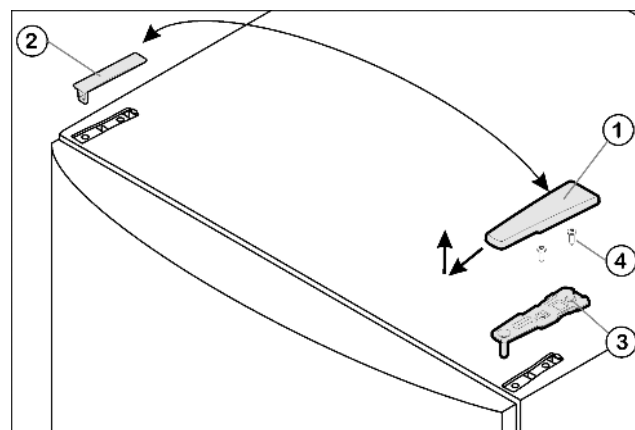

Fig. 4
- Pull off the cover Fig. 4 (1) forwards and upwards.
- Lift off the cover Fig. 4 (2).
- Unscrew the upper turn hinge Fig. 4 (3) (2x Torx® 25) Fig. 4 (4) and lift it off.
- ▶ Insert the upper turn hinge *Fig. 4 (3)* in the door on the new hinge side.
- ▶ Screw the upper turn hinge **firmly** into place (**with 4 Nm**) (2x Torx® 25) *Fig. 4 (4)*. Possibly make preliminary holes with a bradawl or use a cordless screwdriver.
- ▶ Apply the cover *Fig. 4 (1)* and cover *Fig. 4 (2)* to the opposite side from the outside and snap them into place.